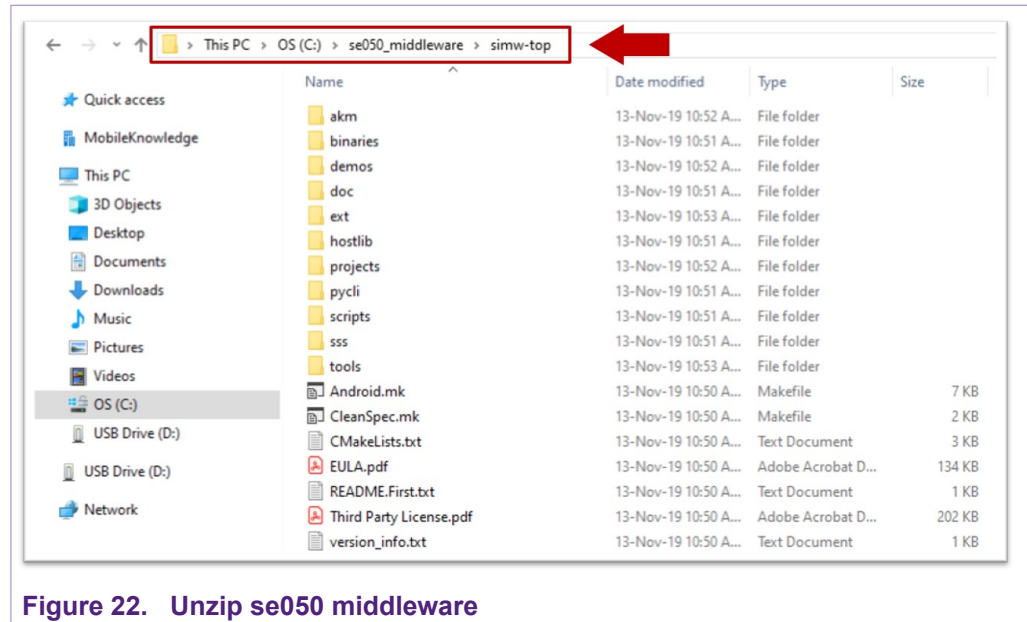

Figure 22. Unzip se050 middleware
3. Unzip the EdgeLock SE050 Plug & Trust middleware inside the **se050_middleware** folder. After unzipping, you will see a folder called **simw-top** created. The contents of the **simw-top** directory should look as shown in Figure 22: